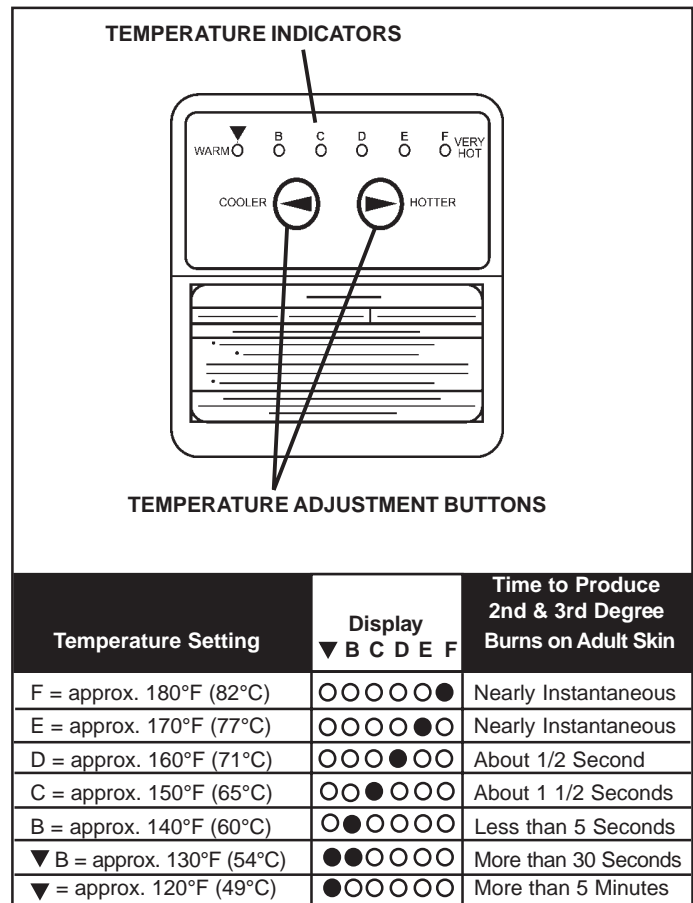

FIGURE 14
Figure 14 shows the approximate water temperatures produced at various thermostat settings. Short repeated heating cycles caused by small hot water uses can cause temperatures at the point of use to exceed the thermostat setting by up to 20°F. If you experience this type of use you should consider using lower temperature settings to reduce scald hazards.
1. "Wake Up" the temperature indicators by holding down both the "COOLER" and "HOTTER" temperature adjustment buttons at the same time for one second (see Figure 14). One or two of the temperature indicators will light up. These indicators will only remain on for 30 seconds if no further buttons are pressed. After 30 seconds the control will go back to "Sleep" mode.